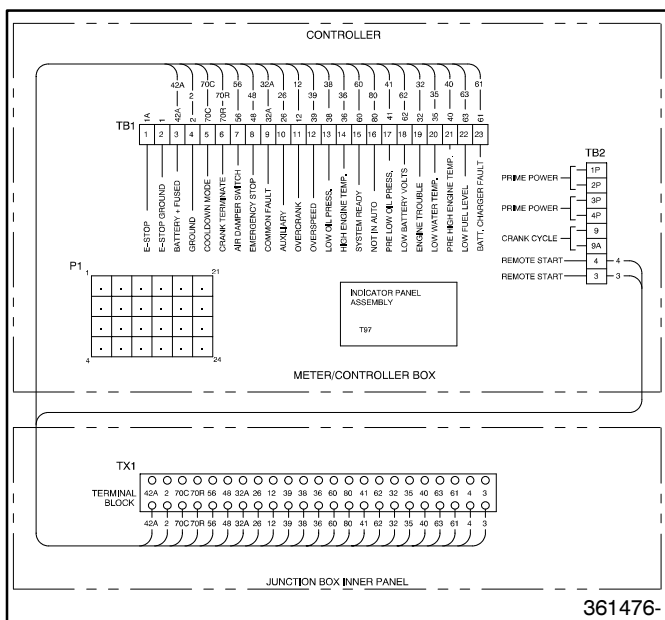
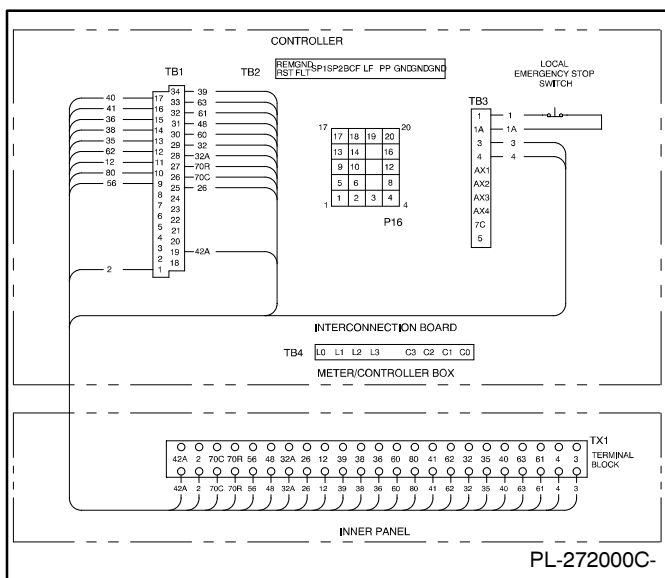

Figure 4. Customer Interface Terminal Strip Wiring for Controllers with Terminal Strips TB1, and TB2
Figure 5. Customer Interface Terminal Strip Wiring for Controllers with Terminal Strips TB1, TB2, TB3, and TB4
7. Connect the kit-supplied leads between the controller circuit board and the customer interface terminal strip. Route the leads through the junction box and up into the controller through the controller port and harness loops. See Figure 4 or Figure 5 for wiring.